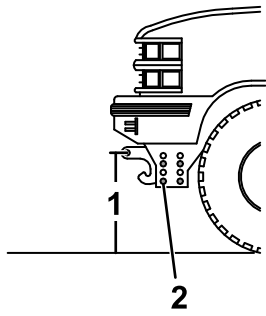

Figure 20
1. Measure the distance from the ground to the coupler spring-pin holes on the undercarriage pushbeam (Figure 20). The measurement should match the height listed for your plow in Specifications \(page 17\).
2. If the pushbeam is not at the correct height, remove the fasteners securing the pushbeam to the undercarriage (Figure 20).